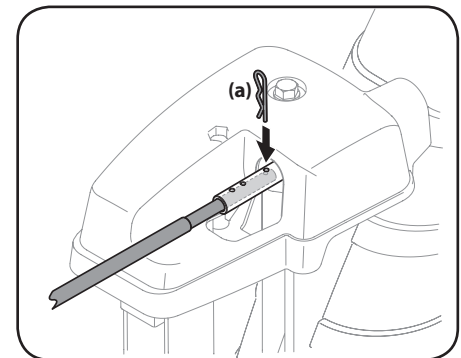

Figure 3-9
2. Push in chute control rod until the hole in it lines up with the third hole in chute rotation assembly. See Figure 3-9.
3. Reinsert cotter pin (a) through this hole and chute control rod as shown in Figure 3-9.